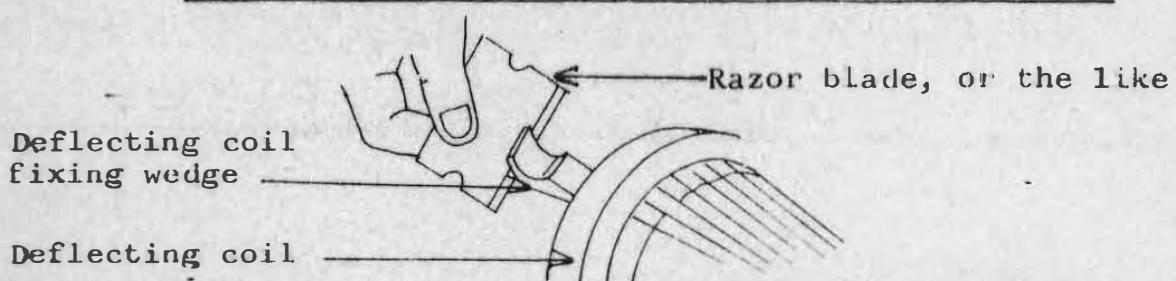

Fig. 2-2 Removing deflecting coil fixing wedge
(2) Color Purity
- d. Move the deflecting coil forward little by little until the whole of the screen becomes red evenly. (If the deflecting coil fixing wedge is a hindrance, remove it as shown in Fig.2-2.) Confirm that the picture is not out of the center of the screen, longitudinally or laterally. If out, correct the picture's position by adjusting the purity magnet in a range of not deteriorating purity.)